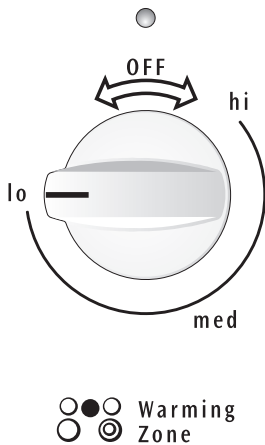

Fig. 3
1. Push in either direction and turn the knob (See Fig 3). The temperatures are approximate, and are designated by **HI**, **MED** and **LO**. However, the control can be set at any position between HI and LO for different levels of warming.